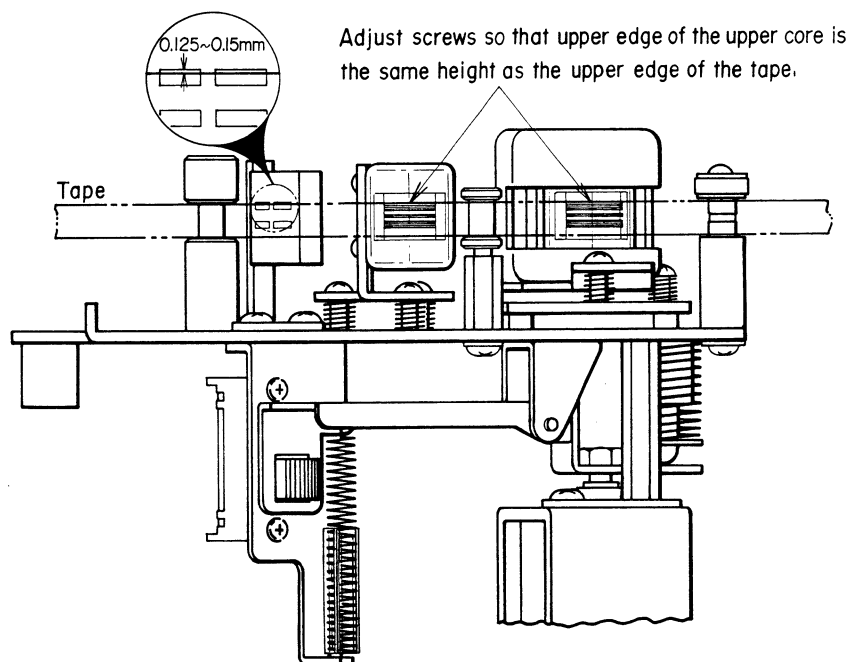

Fig. 6-2
1. ADJUSTMENT OF HEAD HEIGHT (See Figures 6-2 and 6-3).